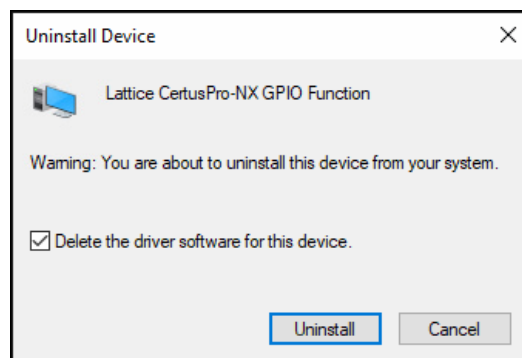

Figure 5.59: Select the check box and click on Uninstall button.
3. Check the option **Delete the driver software for this device** and click on **Uninstall** as shown in Figure 5.59.